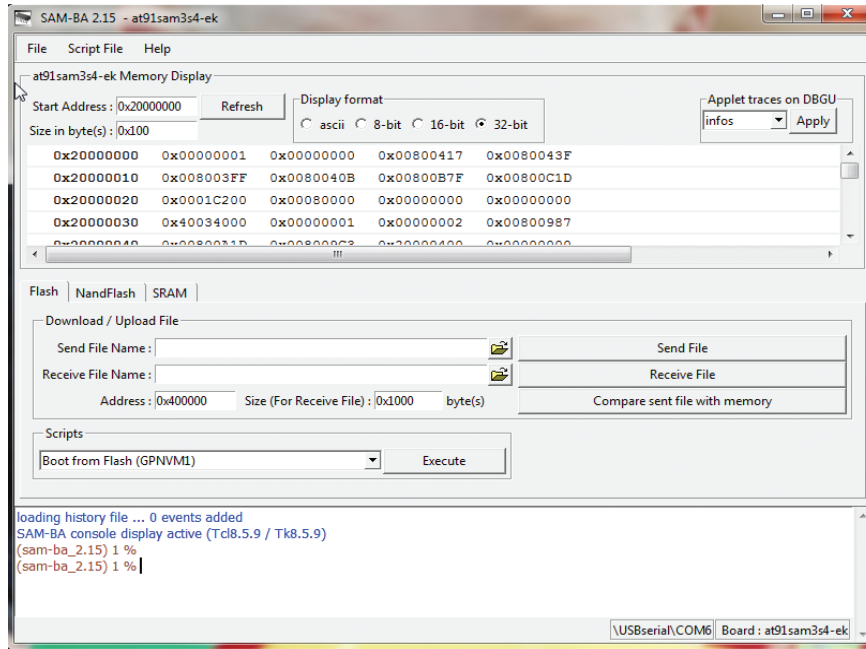

Fig. 44-1 Code Download Window
7. Click “Connect” button to enter the download window. Please see Figure 44-1.